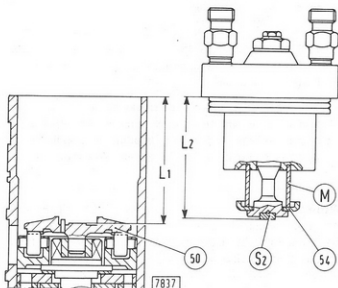

Fig. 62 - Adjusting Rotor Spring Preload
- Depth of rotor seat on cam plate (see L_1 , Fig. 62) from hydraulic head-to-pump contact face.
- Rotor protrusion (see L_2) from hydraulic head flange. To this end, replace spacer (M) No. 290778 for the return spring on the rotor, refit cup (54) and original shim (S_2).
The difference between (L_1) and (L_2) gives the thickness of shims (S_r , Fig. 58) to insert between rotor and cup. After inserting the shims check that dimensions (L_1 and L_2 , Fig. 62) are identical.
Note: Any change in (S_2) thickness involves readjusting (S_1) shims which, in turn, must be done after rechecking dimensions (L_1 and L_2 , Fig. 62) as described above.